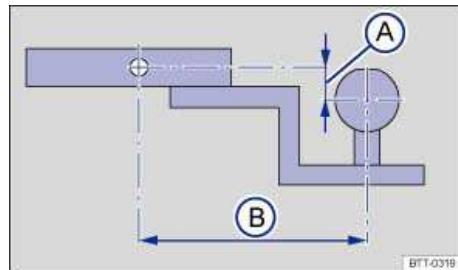

Fig. 111 Dimensions of the ball mount support.
The receiver used requires both a ball mount and a ball that meet special requirements regarding geometry and size. This applies to both the height of the ball above the surface where it attaches → fig. 111 \(A\), and the pin-to-ball distance (B).